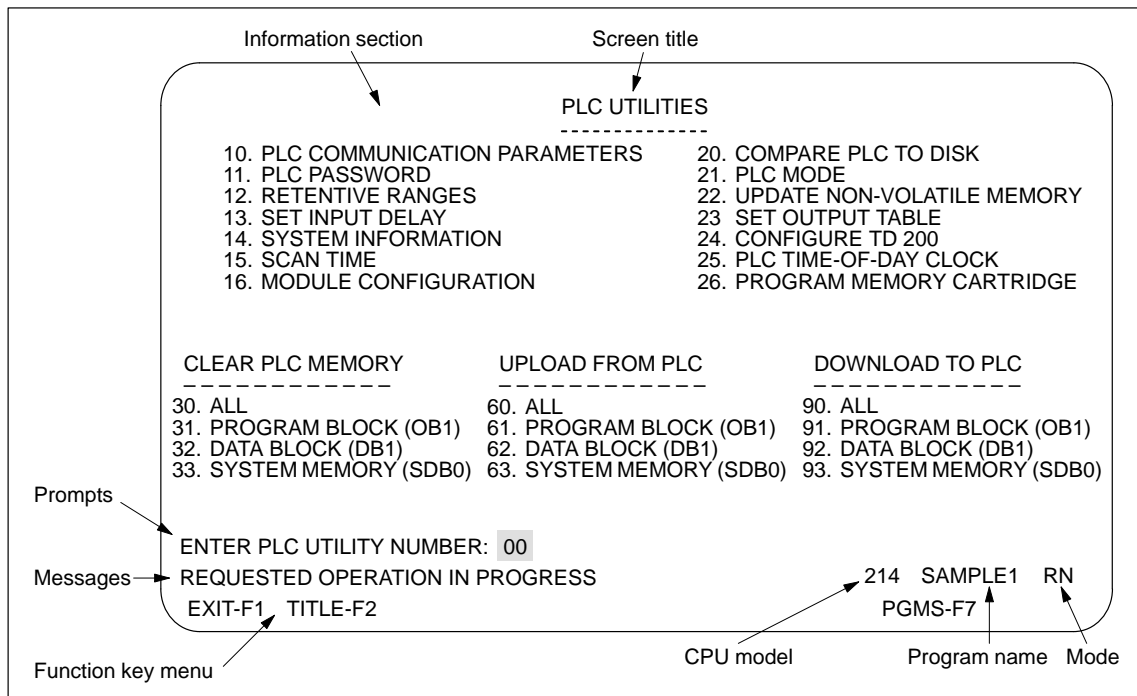

Figure 3-3 STEP 7–Micro/DOS Message Displays
STEP 7–Micro/DOS Screen The STEP 7–Micro/DOS screen provides information in the format shown in Figure 3-3.